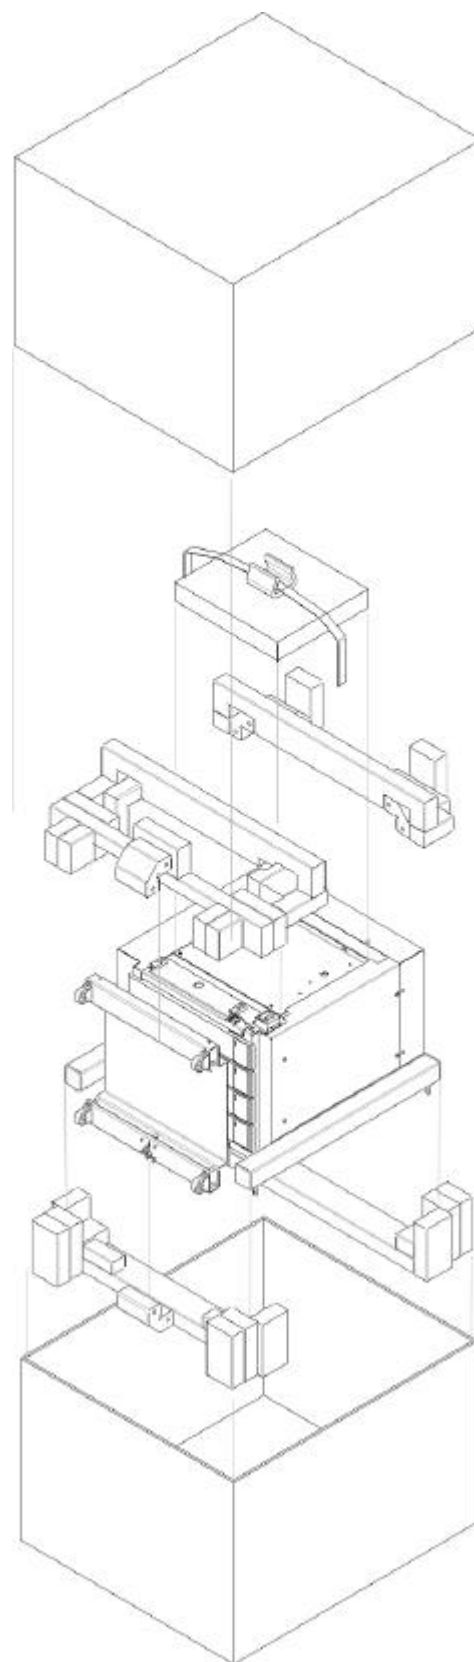

Fig. 8 TowerFeed Packing
- Add the blue shock absorbers on the top. Make sure that the stand is correctly seated and held between bottom and top absorbers (Fig. 3, Fig. 8).
- Fix the accessories box with content on top of TowerFeed with a tape (Fig. 8).